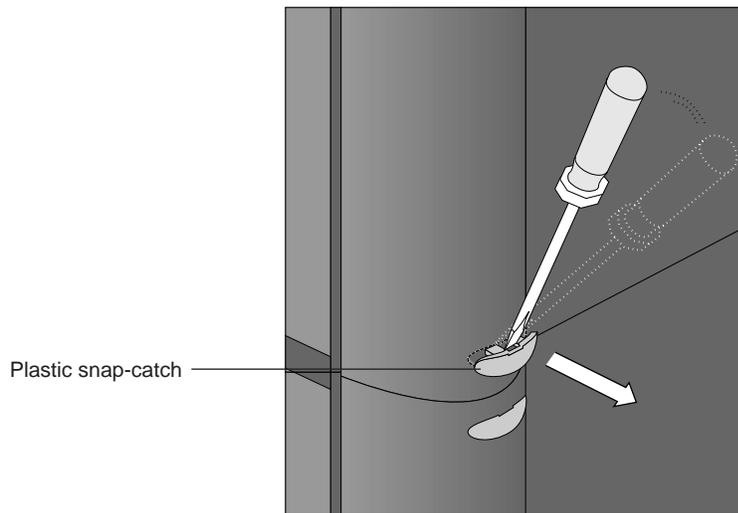

Figure 4. Removing the plastic snap-catch
- a. Use a small flat-blade screwdriver to pop off the teal snap-catches that hold the plastic covers to the unit (Figure 4). There are a total of eight snap-catches for each HDDA chassis.